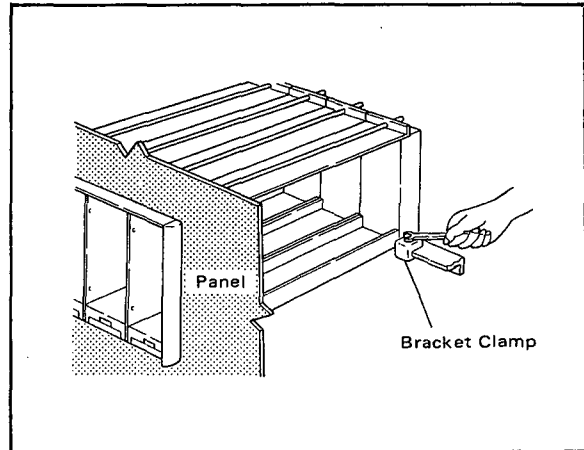

Figure 5-9. Tightening the Bracket Clamp.
- h. Secure the right and left housings with the bracket clamps (provided) on the angle-iron to prevent horizontal shifting of the housings. See Figure 5-9.